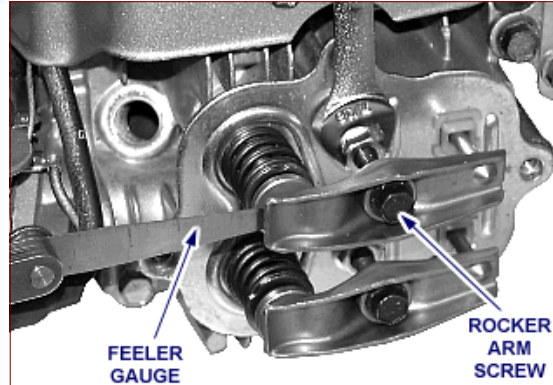

Fig. 22 - Adjust Valve Clearance
6. If not, adjust by turning rocker arm screw until correct clearance is obtained, Fig. 22.